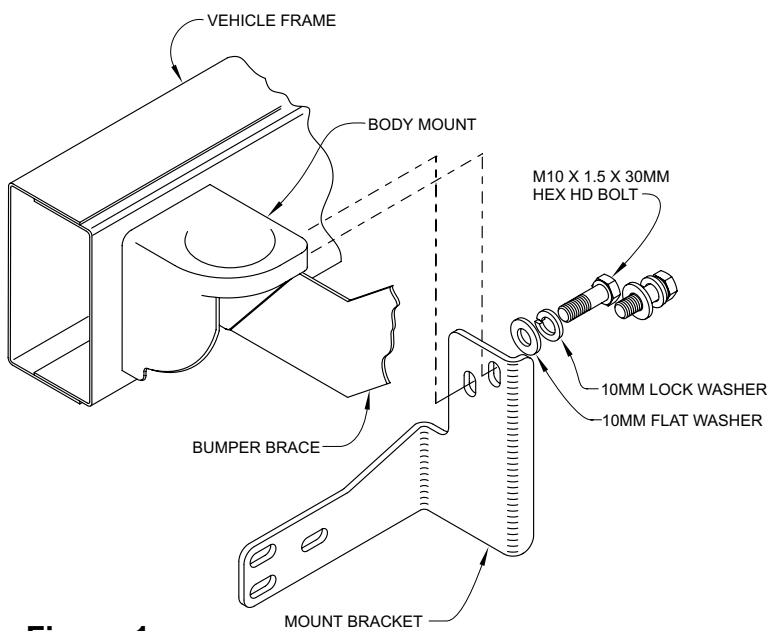

Figure 1
- STEP 4. For each side, place Mount Bracket up to the backside of the body mount and secure using existing 10mm bolts removed in step 3. (On trucks without existing bolts, use the 10mm hardware provided in the bolt kit). (Fig 1).
- STEP 5. Remove the front grille from the truck. On Chevy Blazer and S10 models, the grille is held in with (9) nine metal clips and the turn signals are attached to the grille. On GMC Sonoma and Jimmy and the Oldsmobile Bravada, the grille is retained with (7) seven metal clips, and only the center of the grille is removed. When removing the grille from the truck, pull firmly on the grille until the metal clips release. Work from the passen-